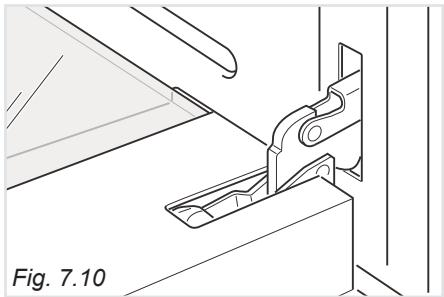

Fig. 7.10
- Open the door to the full extent (fig. 7.10).